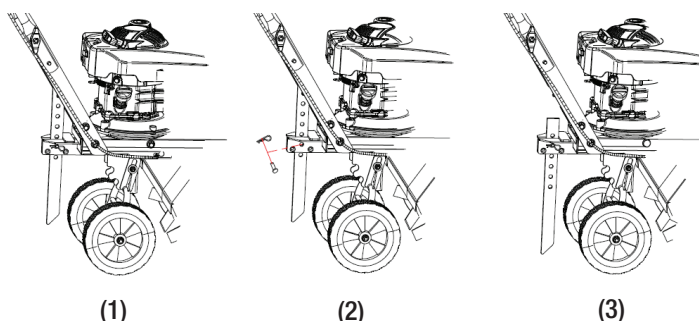

Figure 1-8
- Adjust the depth regulator lever to desired tilling depth. Insert the clevis and cotter pin to secure depth regulator to desired depth. See Figure 1-8.